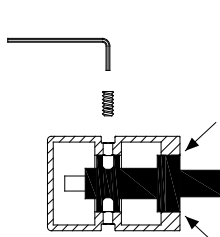

Figure 1
* Slide the **Diverter Knob** onto the **Adaptor**. Line up the **Diverter Knob** with the **Adaptor** as shown on the figure 1. Use the **Set Screw** to secure knob's position. Put the **O-Ring** on the knob's body.